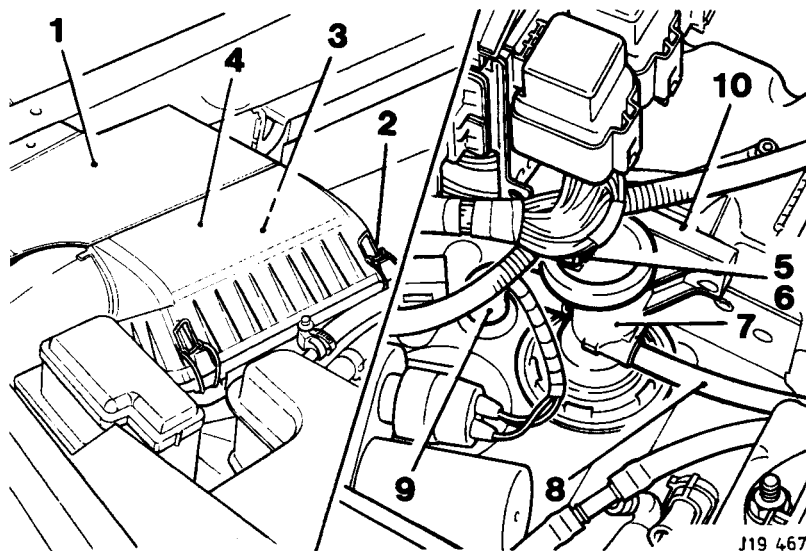

Fig. 1
- Remove blanking cover (1 Fig.1).
- Release air cleaner cover retaining clips (2 Fig.1).
- Remove filter element (3 Fig.1).